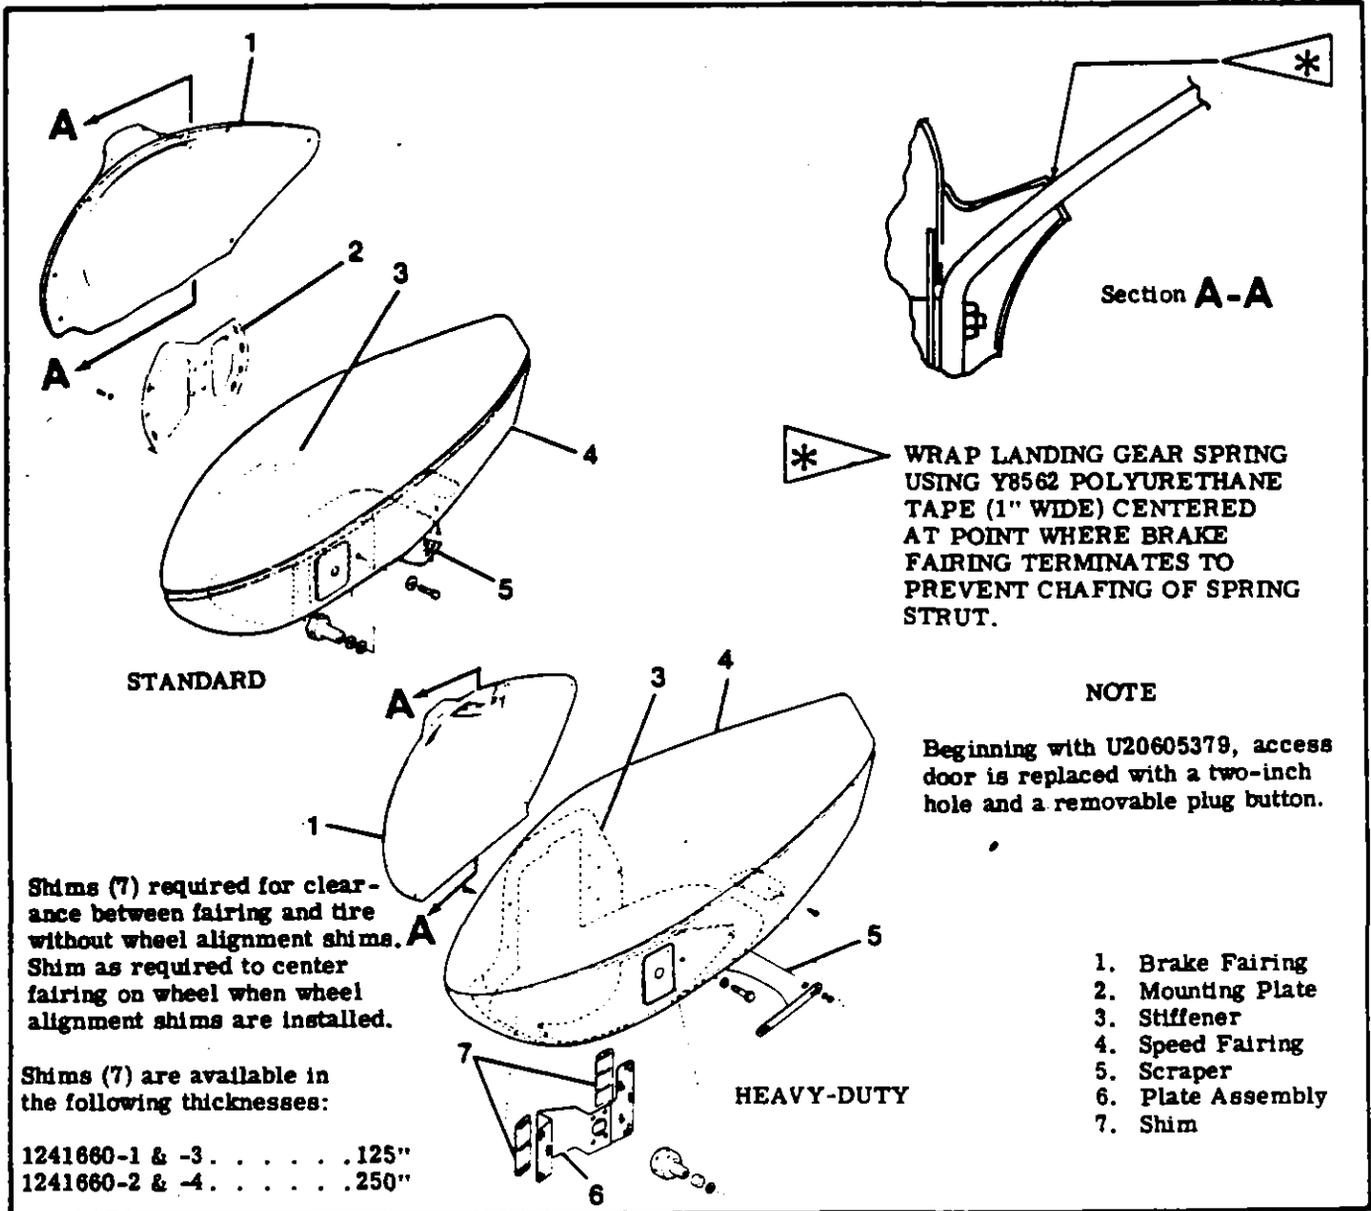

Figure 5-2. Main Wheel Speed Fairings
- n. Wrap landing gear spring with polyurethane tape as shown in Section view A-A in figure 5-2.
5-9. MAIN LANDING GEAR FAIRINGS. (See figure 5-2.)
5-11. REMOVAL OF BRAKE FAIRINGS (STANDARD OR OVERSIZED.) (See figure 5-2.)
5-12. INSTALLATION OF BRAKE FAIRINGS. (STANDARD OR OVERSIZED.) (See figure 5-2.)
5-13. REMOVAL OF STANDARD MAIN WHEEL SPEED FAIRINGS. (See figure 5-2.)
5-14. INSTALLATION OF STANDARD MAIN WHEEL SPEED FAIRINGS. (See figure 5-2.)
5-16. INSTALLATION OF HEAVY-DUTY MAIN WHEEL SPEED FAIRINGS. (See figure 5-2.)